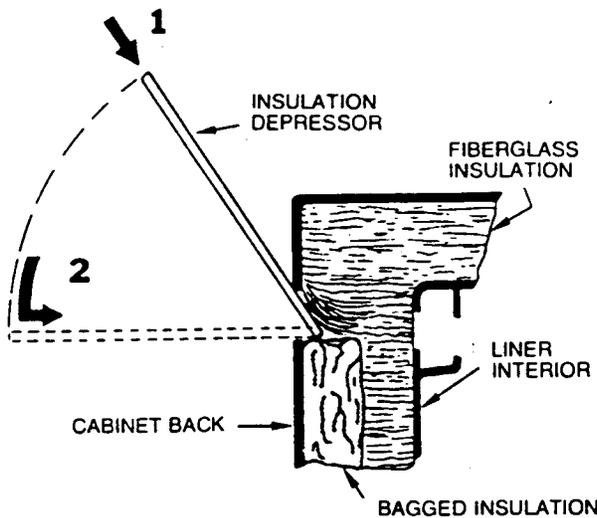

Figure 6 Making passage in insulation for fill tube and grommet
4. If the refrigerator is a foam model use the insulation depressor to clear a path the size of the hole all the way through to the interior. If the refrigerator is a fiberglass model push approximately 2 inches of the flat insulation depressor, at a downward angle, through the bottom of the hole in the cabinet (see figure 6) and carefully lift the fiberglass insulation up until you can see through the hole in the freezer liner back. Then press bagged insulation down until a passage, the size of the hole, is made all the way through.